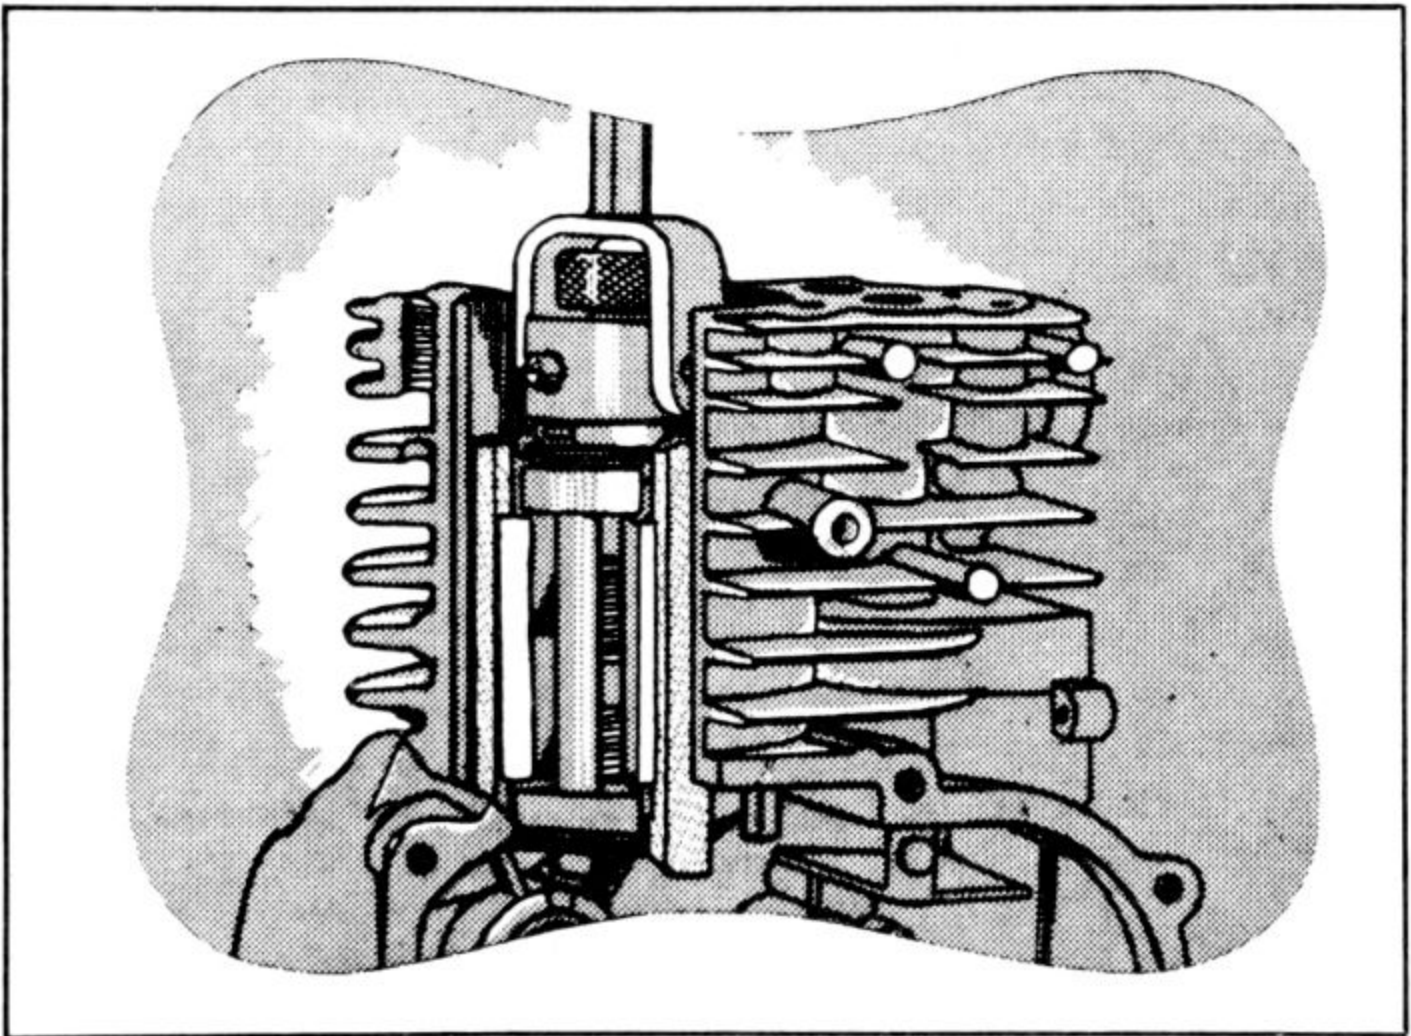

Fig. 6-50. Cutaway view of Clinton block illustrates the cylinder hone at lower travel limit. Note the stone extension beyond the bore.
3. Cycle the hone about 70 times a minute with 3/4 inch or so of stone protruding from each end of the cylinder at extremes of travel (Fig. 6-50).